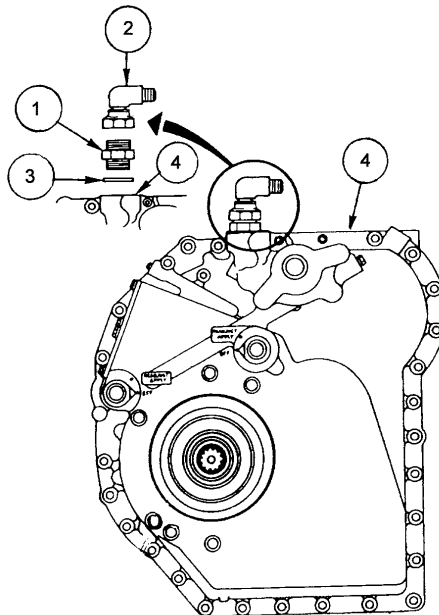

Figure 100. X200-4 Cooler Line Elbow.
1. Install new o-ring (3) onto connector (1). Lubricate o-ring (3) with Petrolatum (WP 0024, Item 14).
2. Install connector (1) into Right Hand Cover Assembly (4).
3. Torque connector (1) to 127-140 lb-ft (172-190 N·m).
4. Install elbow (2) into connector (1).
5. Torque elbow (2) to 127-140 lb-ft (172-190 N·m). Index elbow to 30° of position shown in Figure 100, this Work Package. (When oil line (vehicle part) is installed, elbow (2) may be repositioned to accommodate oil line).